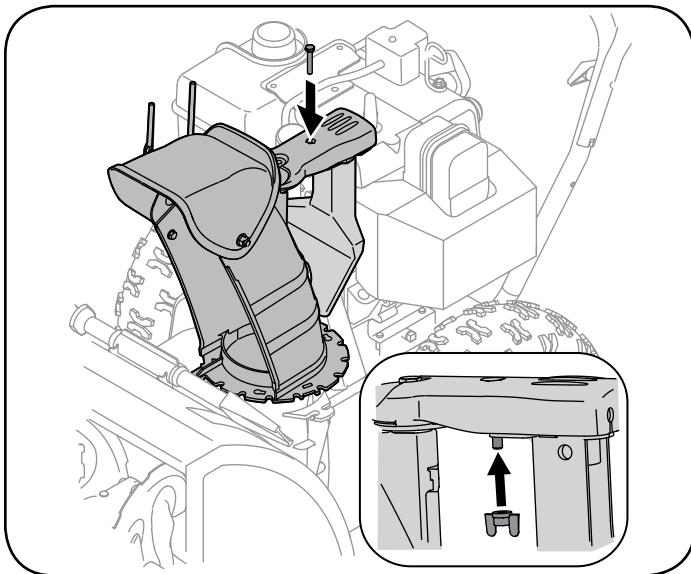

**Figure 4**
4. Place the 4-way chute control in a centered position. See Figure 4.